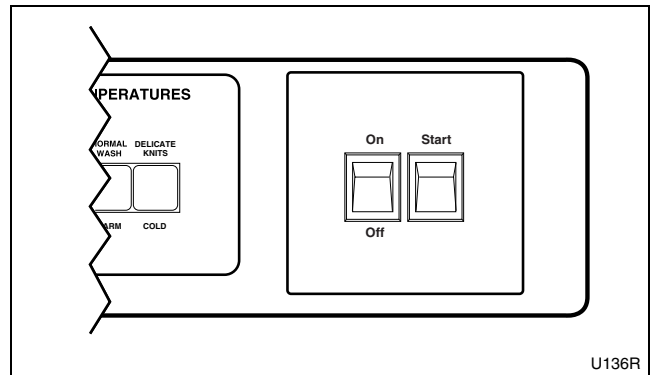

Figure 22
**For non-coin models:** Press the Start button. Refer to *Figure 22*.